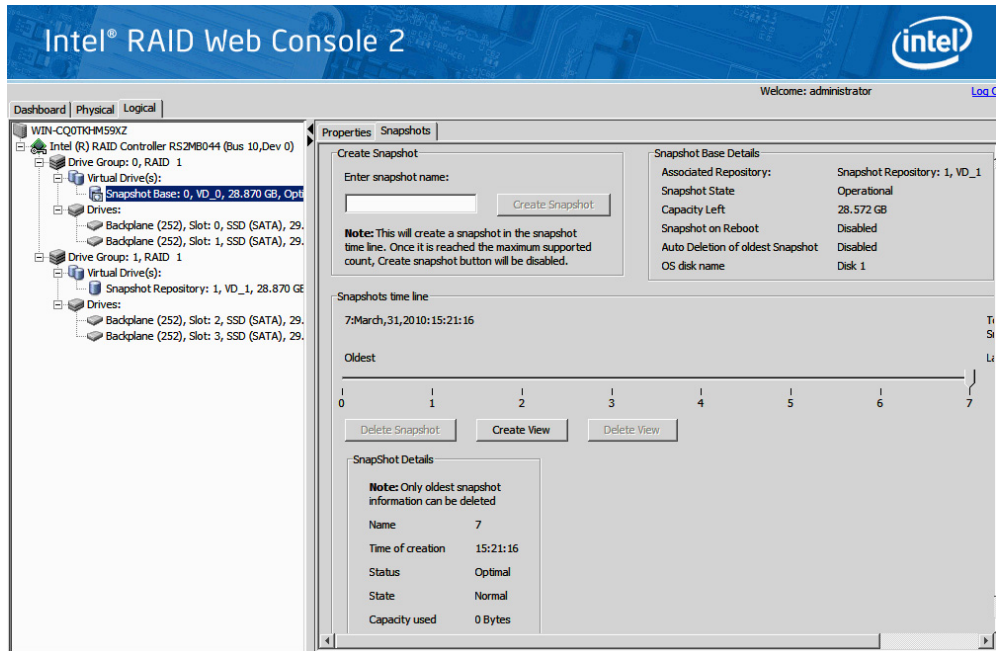

Figure 113. Create Snapshot
23. After snapshots are successfully created (in step 12, Figure 113), following steps roll back to a snapshot at a previous Point in Time (PiT).